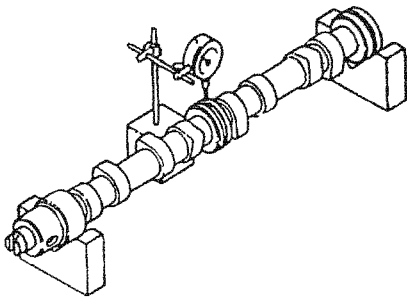

Figure 6-63
- Place a dial indicator on the gear side bearing surface and “zero” the gauge. (**Figure 6-63**)